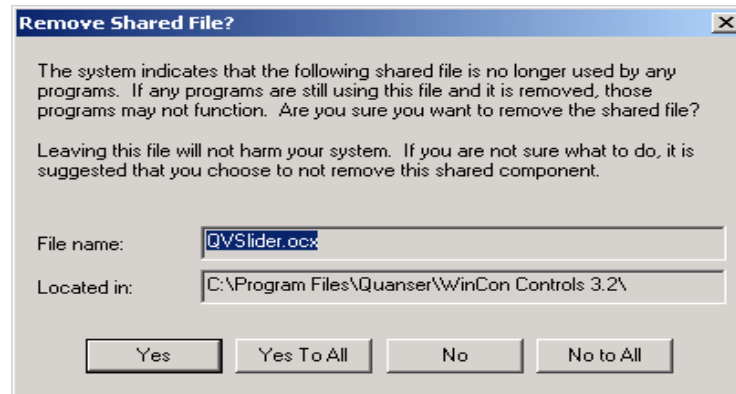

Figure 5 Remove Shared File? Window
- Step 3. **Uninstalling WinCon Controls.** On the PC running WinCon Controls, (the same PC as WinCon Server), open the *Start | Settings | Control Panel | Add/Remove Programs* window. Select, for example, *WinCon Controls 3.2*, and click on the *Change/Remove* button to remove it from that computer. Click *Yes* to the *Confirm File Deletion* window to proceed with the removal of WinCon Controls. Click *Yes To All* in the *Remove Shared File?* warning window, as shown in Figure 5, to remove all of files corresponding to Control Panel widgets,